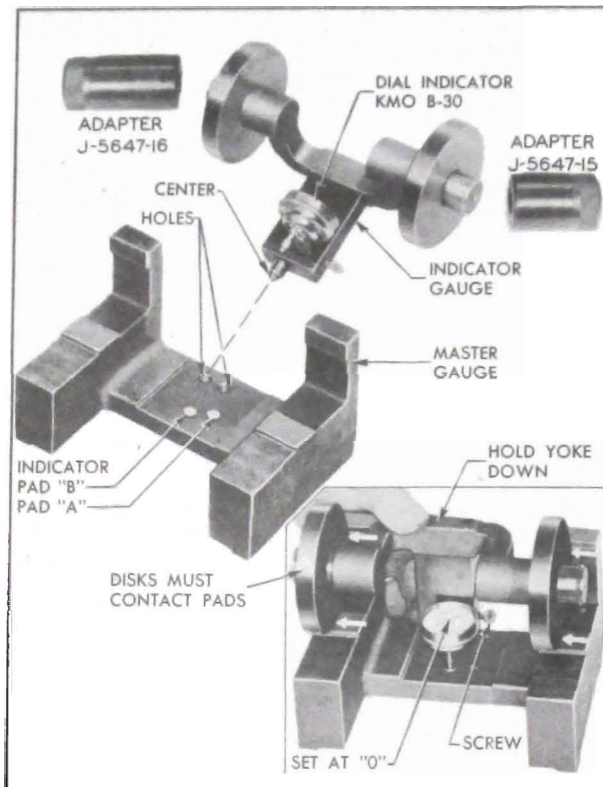

Figure 6-27—Pinion Setting Gauge J-5647 and Adapters
The dial indicator type Pinion Setting Gauge J-5647 is used with adapters to provide a fast and accurate method of checking pinion location; it gives a direct reading on a dial indicator that does not require computation or reference tables. See figure 6-27.
which Dial Indicator KMO-30-B is mounted. Adapters J-5647-17 are not used when “zeroing the gauge,” but are used in place of the discs when checking the pinion setting. See figure 6-27.
2. Install the discs on the “indicator gauge” and install the small contact button on the stem of Dial Indicator KMO-30-B. Mount the dial indicator on the indicator gauge. See figure 6-27.